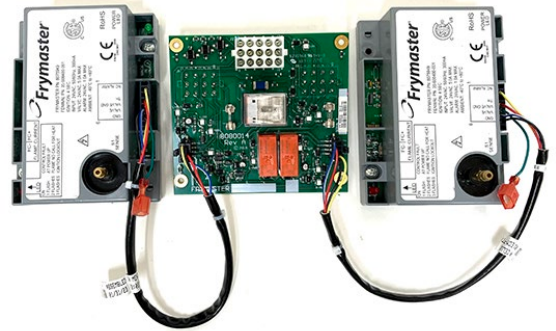
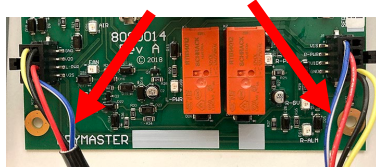

Figure 1 (Full Vat)
Figure 2 (Full Vat)
1. When connecting Fenwal Modules (8075949) to a **NEW** GIVEG board, attach the 8075986 harnesses to **EACH** side of the GIVEG board (see Figure 1). **NOTE:** Both harnesses have a blue/white wire (see Figure 2).
4. Attach the 8075986 harnesses to **EACH** side of the GIVEG board (see Figure 2 on page 1). **NOTE:** Both harnesses have a blue/white wire.